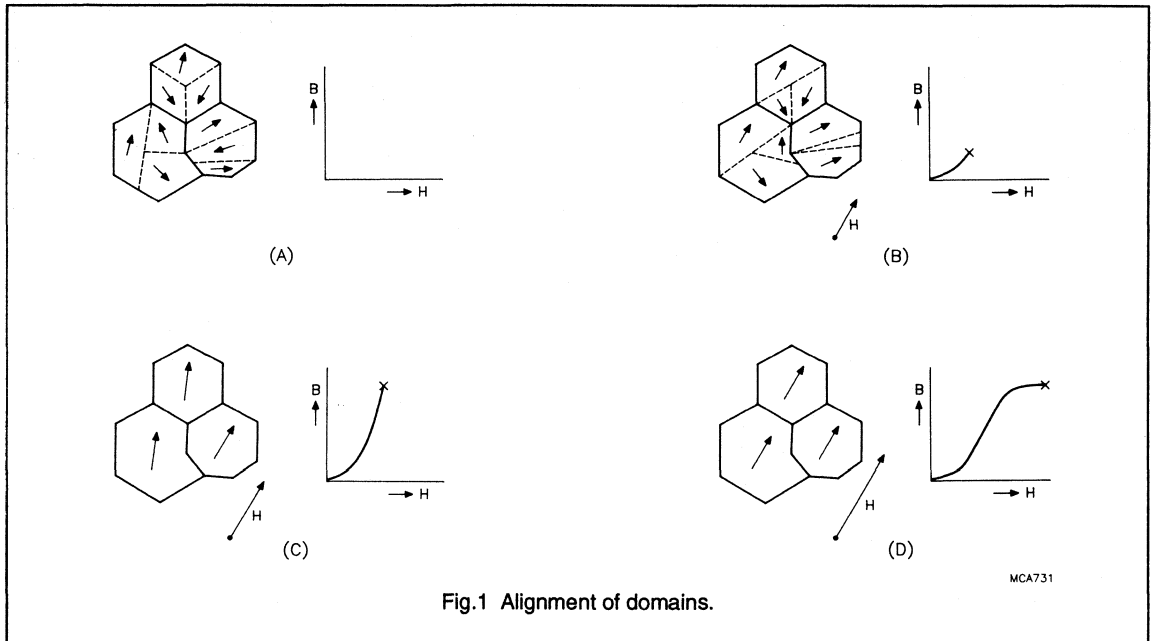

Fig.1 Alignment of domains.
magnets are already aligned (ferrimagnetism). When a driving magnetic field (H) is applied to the material the domains progressively align with it, as shown in Fig.1.